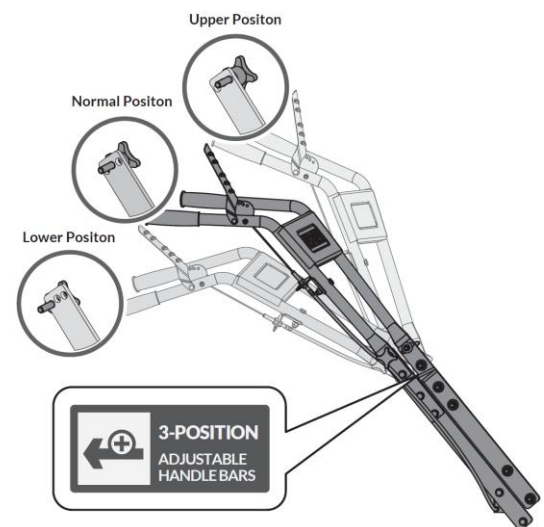

Figure 19
1. Loosen the two bottom Bolts of the Upper Handlebar using two 13mm Wrenches (**Figure 19**).